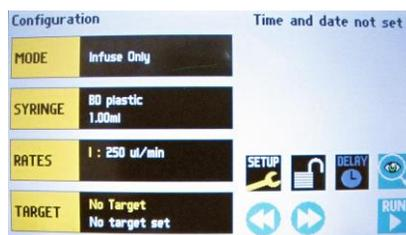

Figure 4. Syringe pump configuration touch screen
2. Programming Configuration parameters (Figure 4):